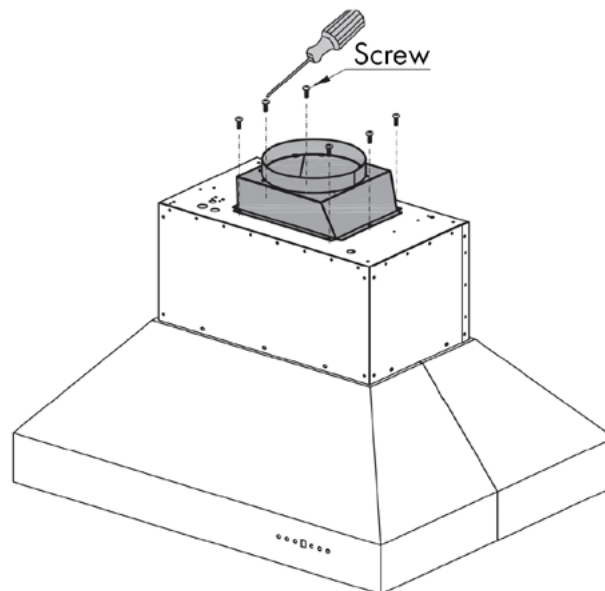

Figure 3
5. Use 16 screws (F) to attach the transition piece to the top of the hood. Ensure the dampers in the transition piece open upward, not downward. *Figure 3*